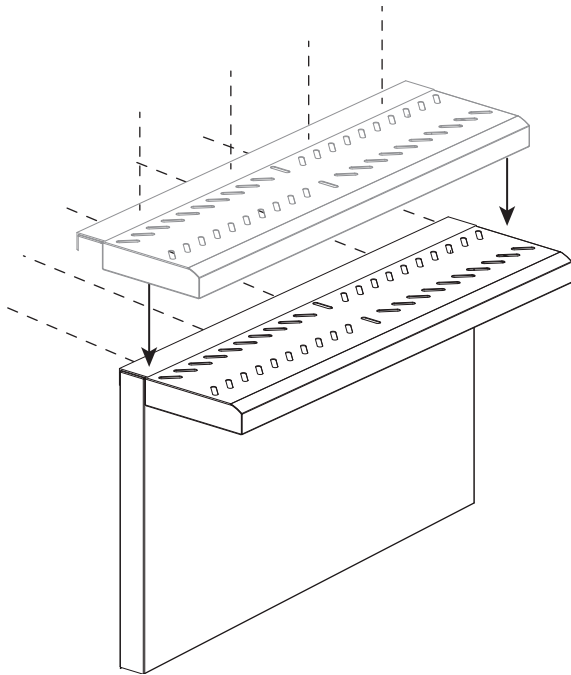

Figure 26: High Shelf Assembly
3. Install the included stainless screws along the topside of shelf and into the back of the shelf (*Figure 26*).